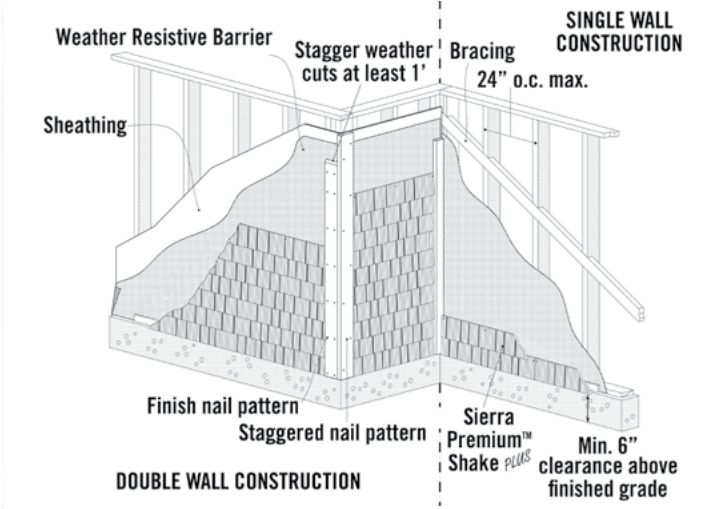

Fig. 17.1
- Sierra Premium™ Shake Plus and Smooth boards can be installed directly on braced wood construction spaced at a maximum of 24" o.c. or over sheathing with vertical solid wood backing. Please contact Nichiha regarding installation over steel frame construction. (Fig. 17.1)